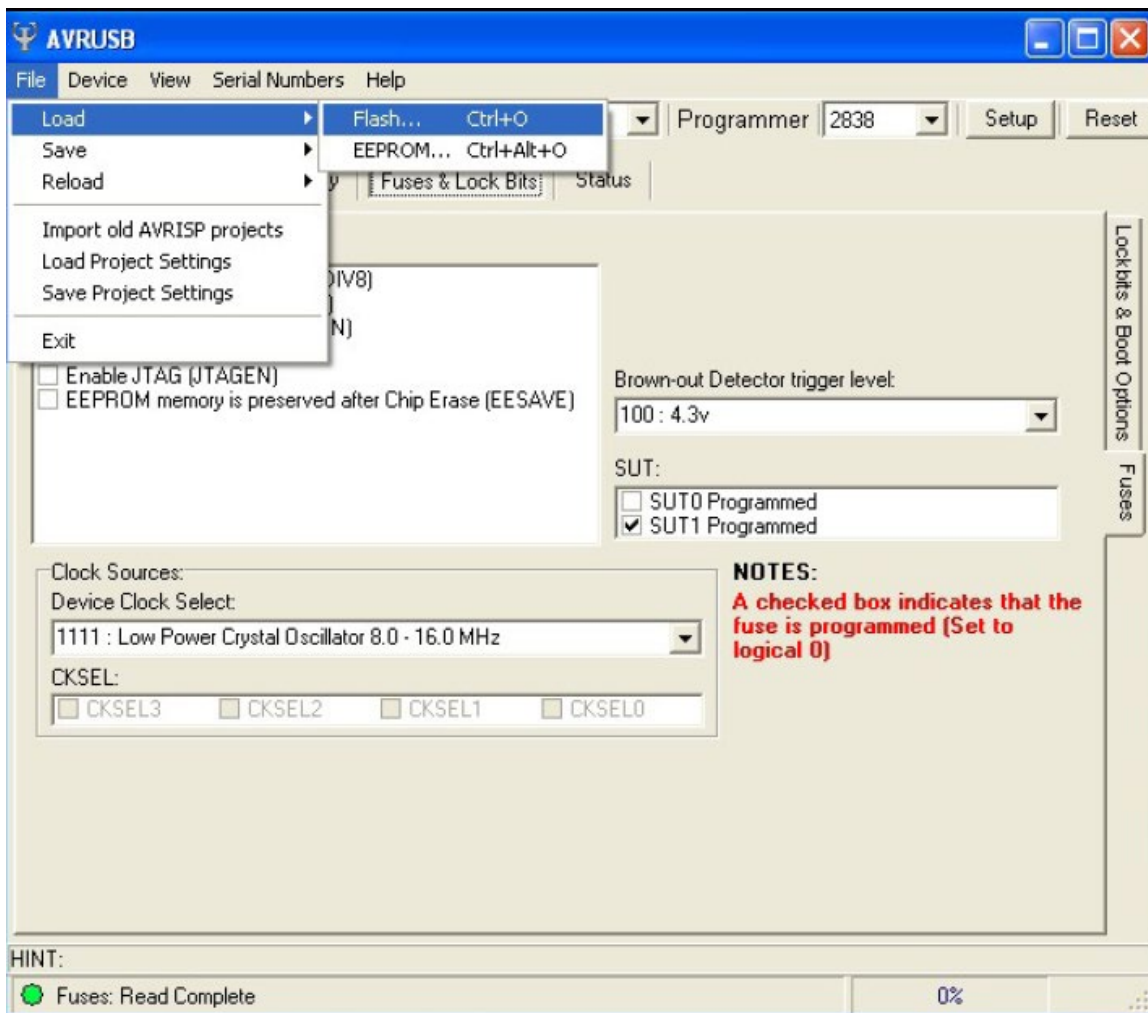

Figure 13
12. Next, load the hex file into the AVR so that it can be transferred to the 225D. From the menu list at the top of the screen select *File, Load,* and then *Flash.* See Figure 13.